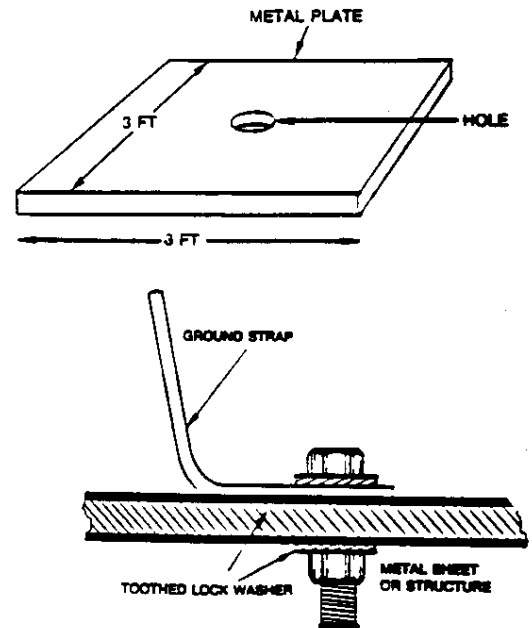
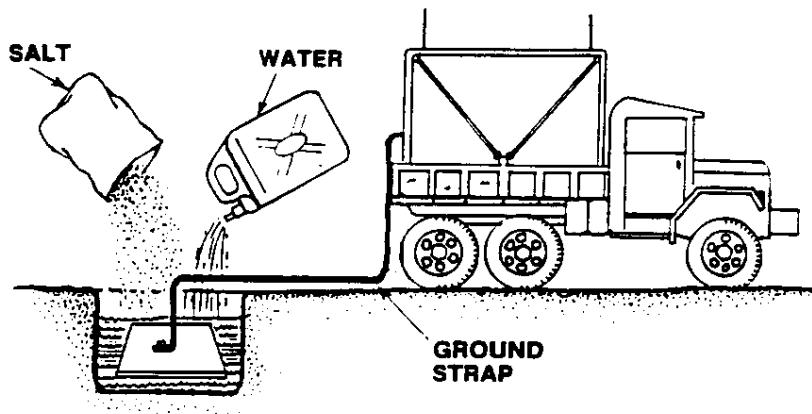

Figure 9
Figure 10
(1) In the desert, a ground plate may work better than a ground rod. (See Figure 9.) Select any clean, bare metal plate or sheet that's at least 3 feet square and at least 1/8 inch thick. Select a metal bolt, nut and lock washer and drill a hole in the center of the plate just large enough for the bolt. Fasten a ground strap to the plate as shown in Figure 9. Make sure the connection is clean and tight. Pour a mixture of water and salt into the soil around the plate. (See Figure 10; also see instructions in paragraph 5 for improving conductivity.) Bury the plate horizontally at least 4 ft below the surface.